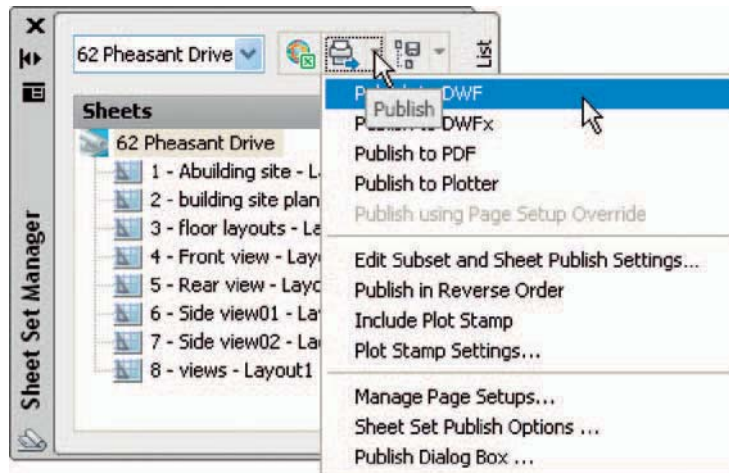
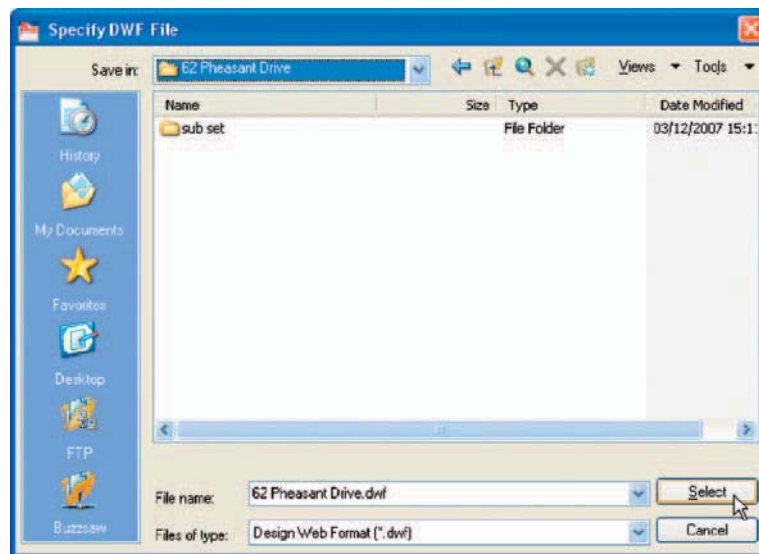
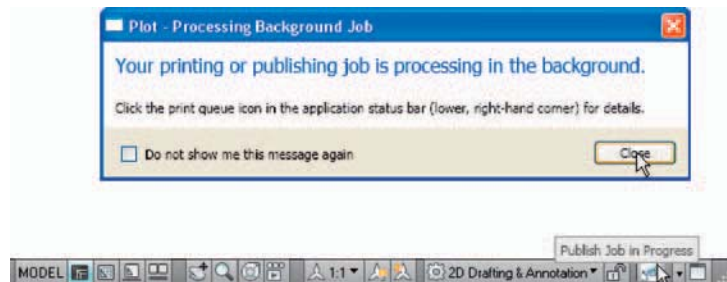
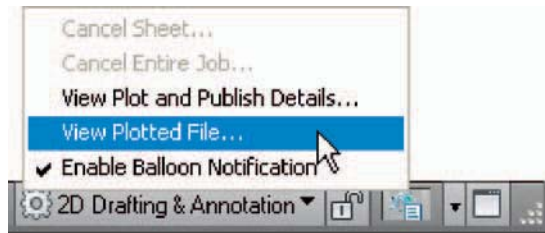

Fig. 11.10 The Publish icon in the Sheet Set Manager
Fig. 11.11 The Select DWF File dialog
Fig. 11.12 The Publish Job in Progress icon
Fig. 11.13 The right-click menu of the icon
1. In the **62 Pheasant Drive Sheet Set Manager** click the **Publish** icon, followed by a click on **Publish to DWF** in the menu which appears (Fig. 11.10). The **Specify DWF File** dialog appears (Fig. 11.11). Enter **62 Pheasant Drive** in the **File name** field followed by a click on the **Select** button. A warning window (Fig. 11.12) appears. Click its **Close** button. The **Publish Job in Progress** icon in the bottom right-hand corner of the AutoCAD 2010 window starts fluctuating in shape, showing that the DWF file is being processed (Fig. 11.12). When the icon becomes stationary *right-click* the icon and click **View Plotted file** in the right-click menu which appears (Fig. 11.13).